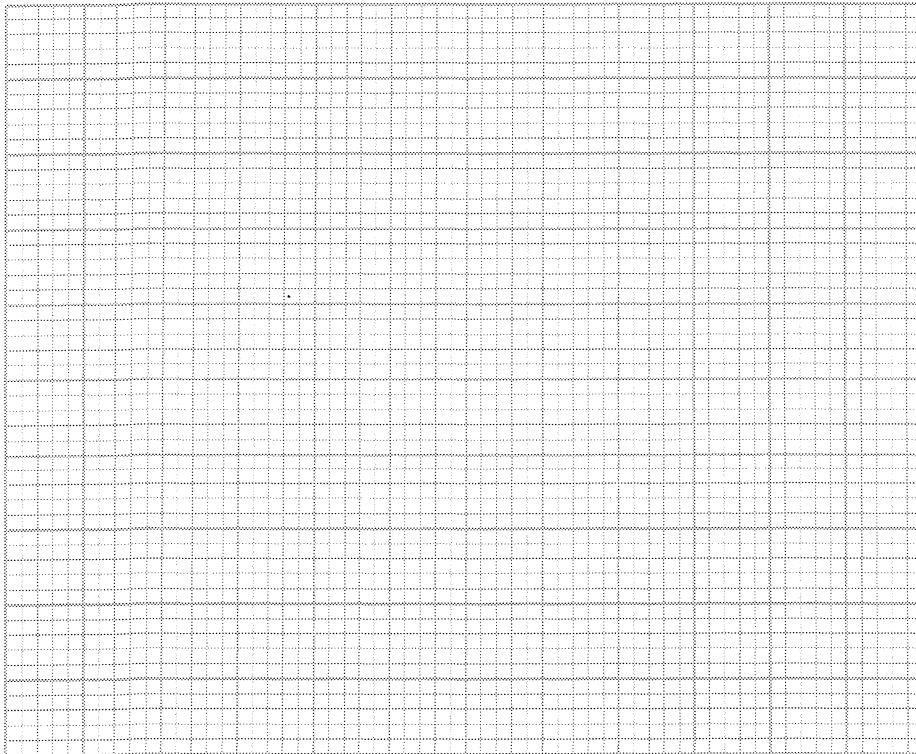

Figure 12.4 Polarity testing of sub-mains
- Draw the circuit arrangement for performing the test in Figure 12.4.